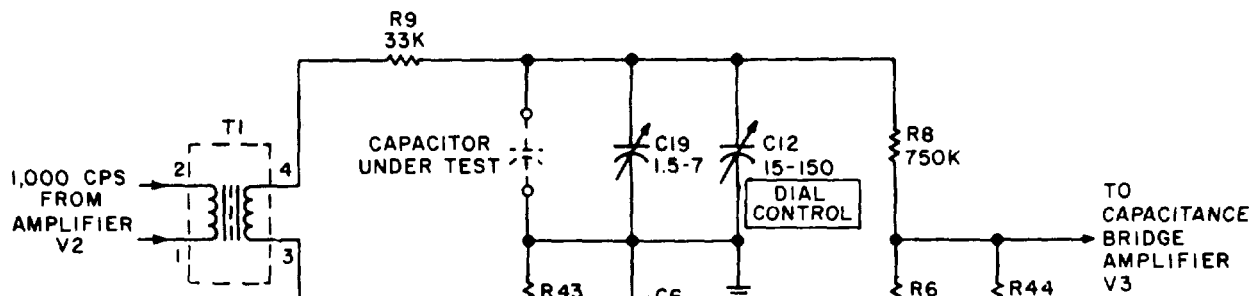

Figure 6. Capacitance bridge, 80 to 50000 MMF range, simplified schematic diagram.
- (2) 80 to 50000 MMF range (fig. 6).